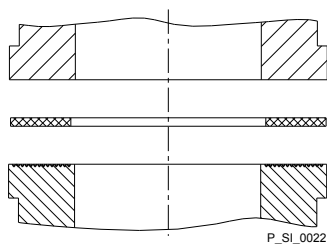

Fig. 12: Elastomer flat seal for a smooth insert
- However, in the event that a smooth insert is used (e.g. third party part), an elastomer flat seal must be used - see Fig. 12.